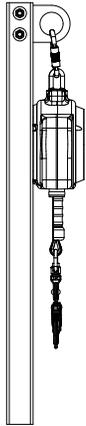
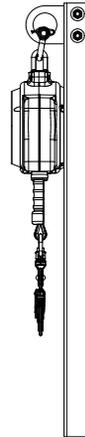

Fig. 6
Fig. 7
6. Any SRL with a maximum arrest force of 1800-lb. or less may be connected to the Vertical Fixed Ladder Davit using either a steel carabiner (part number 3062-36 or equivalent) or a 1/2-in or 5/8-in. bow shackle (part number 6602 or 6066 or equivalent). To connect the SRL using a carabiner, pass the carabiner through the handle (or connection point) of the SRL and lift the SRL upward to the SRL anchor ring. While holding the carabiner gate open, insert the carabiner into the ring opening. Allow the gate to close and lock (see Fig 6). **NOTE:** If a carabiner is used, the gate **MUST** close and lock once positioned into the SRL anchor ring. To connect the SRL using a bow shackle, connect the 1/2 or 5/8-in. bow shackle to the handle or connection point of the SRL. Lift and align the bolt hole loops of the bow shackle with the SRL anchor ring opening and insert bow shackle bolt. Secure in place with the nut and tighten, lock the nut in place with the safety rue pin. (see Fig. 7)